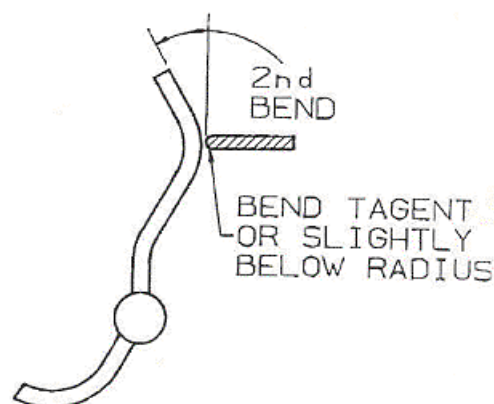

Figure 3-12. S&K pin adjustment if reading is low at 60/100 mmHg.
26. Remove the test pointer and test dial. Position the calibration tool over the adjusting pin and push it down to the cross shaft. Lift the tool approximately 1/16 inch and bend the pin approximately 15 degrees. See Figure 3-12. While maintaining this position, lift the tool to point where the pin makes contact with the gear sector. Bend the pin down 30 degrees. Remove the tool and release the gear sector. Check for gear sector starting position as defined previously. Adjust if necessary. Re-assemble the test dial and test pointer. Recheck the span and adjust as necessary prior to inspection at the intermediate points.